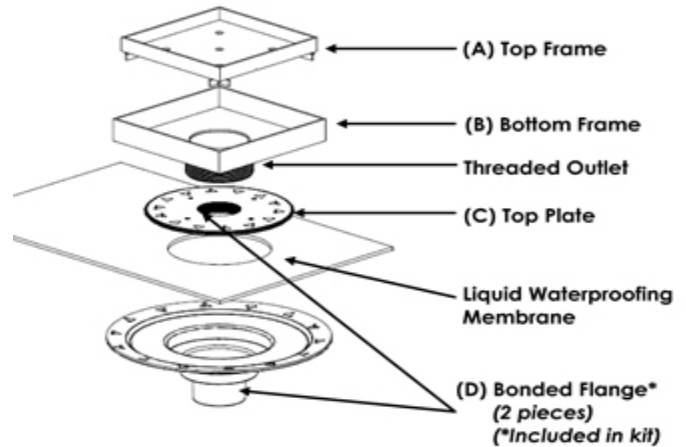
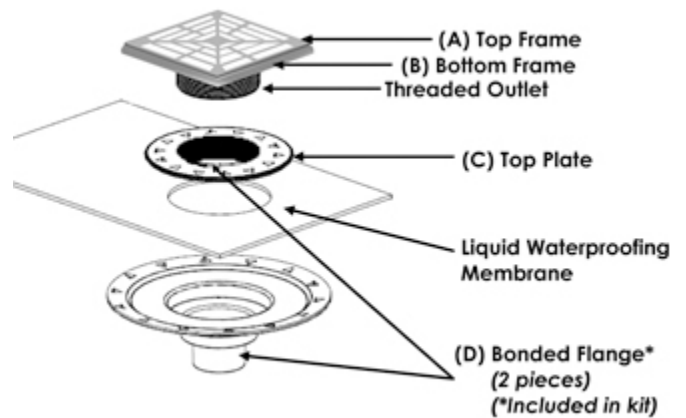

Fig. 1
Fig. 2
fit the HYDRO BAN Bonding Flange Drain through the hole and to the waste line below. When connecting to a 2" (50 mm) waste line which is already in place the top of the waste line should be 1-3/4" (44 mm) below the surface of the substrate. Make sure that the HYDRO BAN Bonding Flange Drain is PVC when connecting to a PVC waste line or ABS when connecting to an ABS waste line. Cement the HYDRO BAN Bonding Flange Drain in place using PVC solvent and cement for PVC and ABS solvent and Cement for ABS HYDRO BAN Bonding Flange Drain and waste line connections. Make sure that the HYDRO BAN Bonding Flange is level before the PVC or ABS cement has cured. DO NOT MIX materials, this will cause a failure in the pipe weld. When installed over EGP the bonding flange (D) Fig 1 and 2 can be screwed to the substrate using stainless steel or zinc coated 3" (76 mm) drywall screws. There are four countersunk holes around the perimeter of the bonding flange (D) for this purpose. The installation is now ready to accept the mortar bed.
#### **Installing HYDRO BAN and Tile (Fig. 1 and Fig. 2)**
3. Tile walls and floors; when thin-set and tile are ready to be installed around the HYDRO BAN Bonding Flange Drain comb thin-set onto bonding flange (D) and set top plate (C) onto the bonding flange. Thin-set should ooze through the triangle voids in the top plate (C). Scrape any excess thin-set from the top plate (C) using a trowel. As you tile closer to the top plate insert the threaded outlet of the top and bottom frame (A and B) into the top plate (C). Adjust the top and bottom
- frame by screwing in the threaded outlet to the top plate (C) to allow for height adjustment (fig. 2). Thin-set over the top plate (C) and install tile.
4. If using the tile-in grate with the HYDRO BAN Bonding Flange Drain, remove top frame (A) and prime surface with two coats of HYDRO BAN prior to installing tile within the frame using a polymer fortified thin-set. Make sure that the stainless steel top frame (A) is free of grease, dirt or finger prints prior to applying the HYDRO BAN.